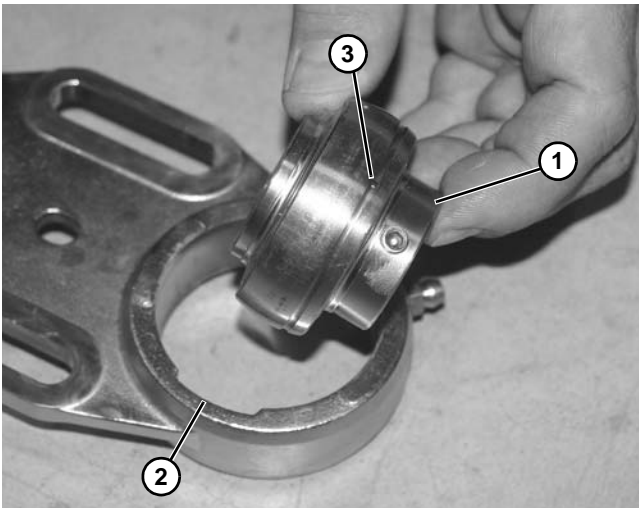

Figure 104
2. Turn bearing (**Figure 104, item 1**) to align with slots (**Figure 104, item 2**) and anti-rotation nub (**Figure 104, item 3**), as shown, in bearing housing. Then remove bearing.
4. Insert bearing (**Figure 104, item 1**) into housing slot. Locate anti-rotation nub (**Figure 104, item 3**) to align with slot (**Figure 104, item 2**) and twist bearing into housing.